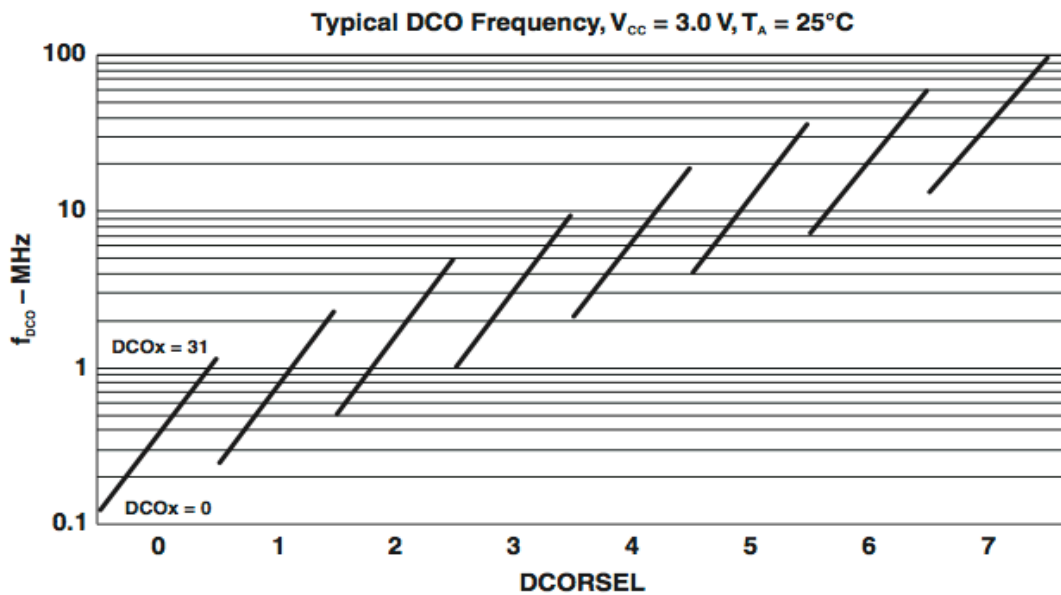

Figure 6.- DCOx and DCORSEL diagram
4. Now change the clock frequency to 8 MHz with the help of Figure 6. You need to change the registers UCSCTL1 and UCSCTL2 for that. Refer to the Datasheets *cc430f6137.pdf* and *slau259e.pdf* for detailed information on these registers.